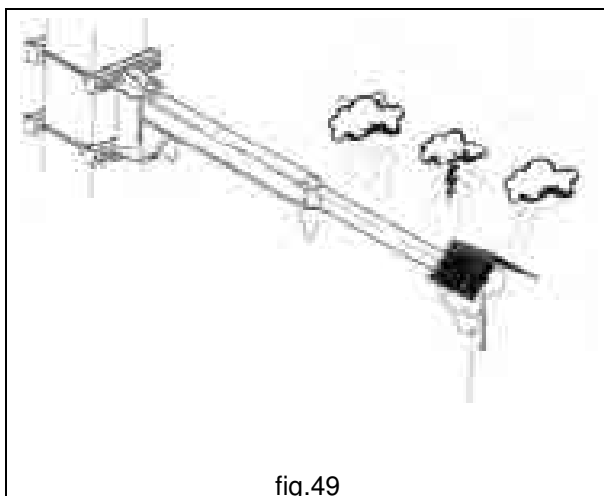

fig.49
**outdoor use:** the jib crane may be exposed to atmospheric conditions during and after use. The electric parts of the hoist and trolley have IP55 protection, however, protecting the hoist and trolley with a shelter of some kind is recommended (fig.49).